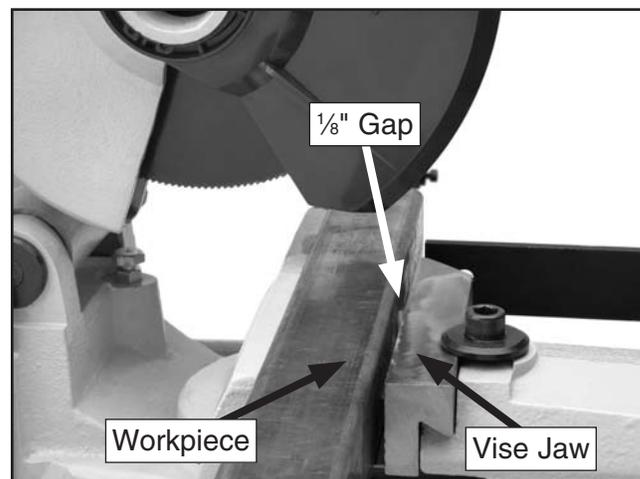

Figure 30. Closing vise.
4. Close the vise to within approximately 1/8" of the workpiece, as shown in **Figure 30**.